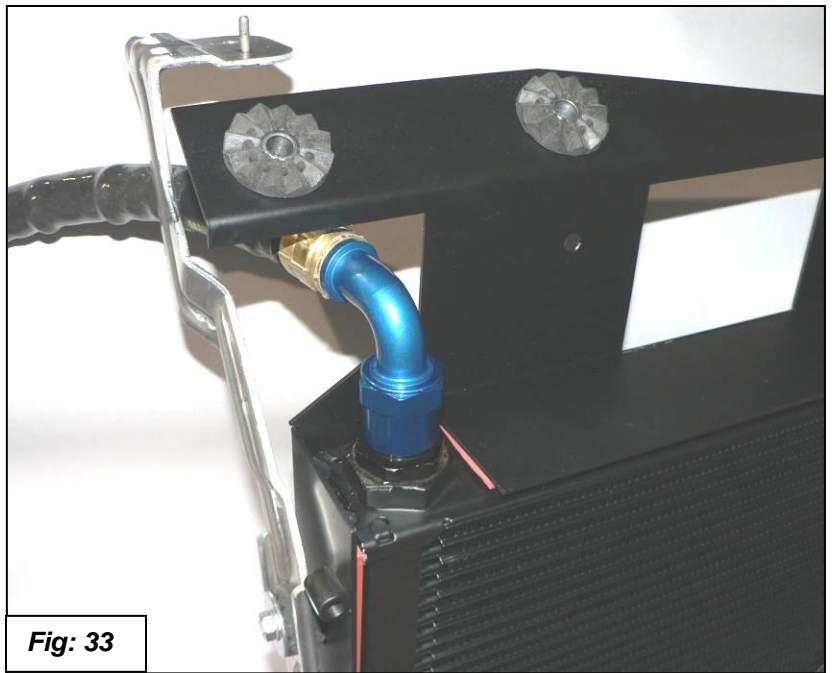

Fig: 33
38. Loosely install the oil line with the 90° fittings on each end. One end has a swivel and one end doesn't. Install the end without the swivel onto the topside of the oil cooler. Do not tighten yet. See figure 33.